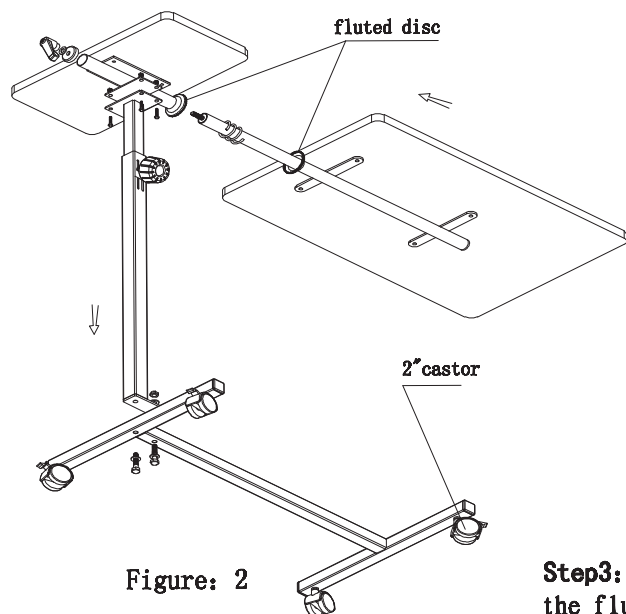

Figure: 2
Step2: As shown in Figure 2, in the direction of the arrow,installed the assemblies,tighten the screws.